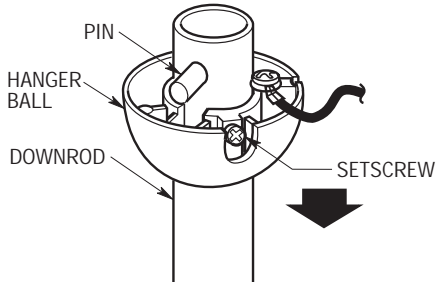

Figure 1
- 1. Remove the hanger ball by loosening the setscrew in the hanger ball until the ball falls freely down the downrod (Figure 1). Remove the pin from the downrod, then remove the hanger ball. Retain the pin and hanger ball for reinstallation in step 5.